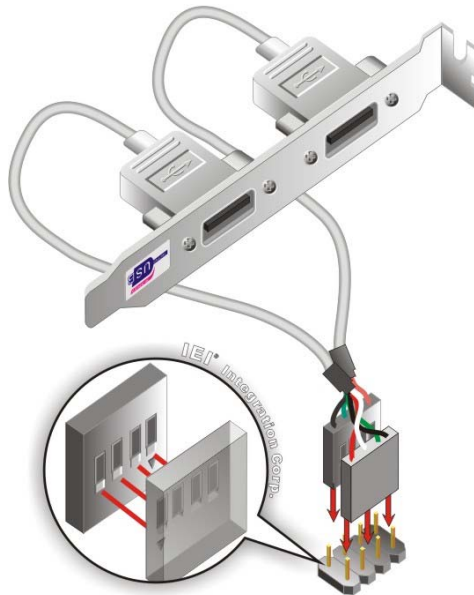

Figure 4-11: Dual USB Cable Connection
Step 3: Insert the cable connectors Once the cable connectors are properly aligned with the USB connectors on the PCISA-PV-D4251/N4551/D5251, connect the cable connectors to the on-board connectors. See **Figure 4-11**.